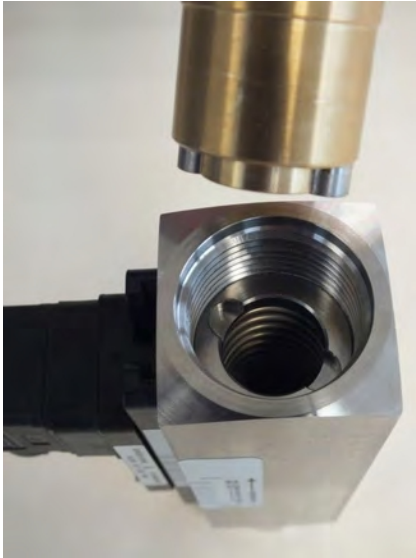

Fig. 36: Insert threaded ring insertion tool (outlet)
3. ➤ Insert the threaded ring insertion tool into the device outlet (Fig. 36) and turn until it rest in the keyway of the threaded ring